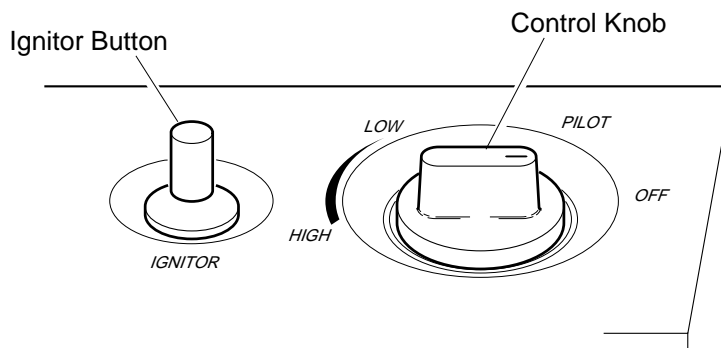

Figure 16 - Control Knob In The OFF Position
4. Wait five (5) minutes to clear out any gas. Then smell for gas, including near the floor. If you smell gas, **STOP!** Follow “B” in the safety information at the top of page 17. If you don’t smell gas, go to the next step.
5. Press in control knob and turn counterclockwise ↺ to the PILOT position. Keep control knob pressed in for five (5) seconds (see Figure 16, page 17).